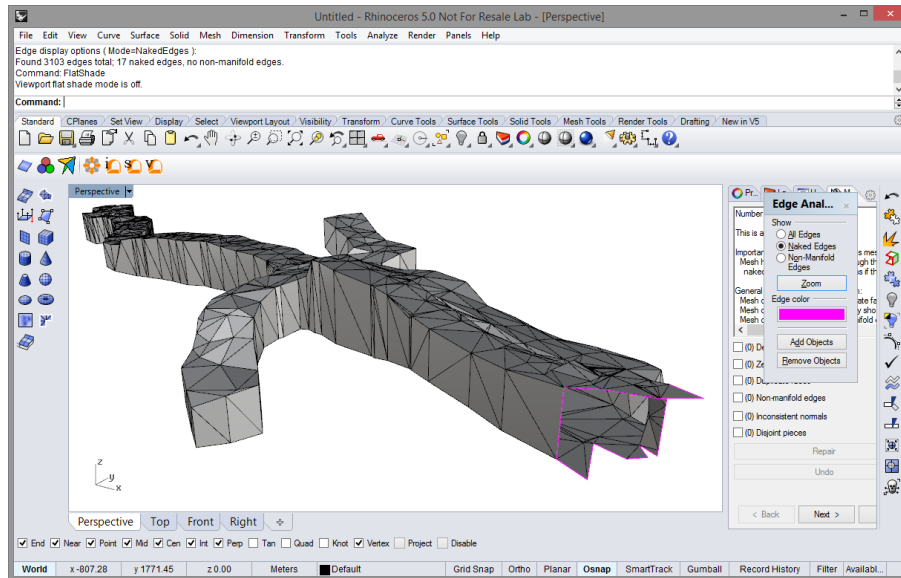

Figure 104: Highlighted open end of drift.
6. Maximize the perspective view and type **_FlatShade** to get a shaded view of the mesh. You will notice that the one of the drifts is open (Figure 104). We need to close this to eventually obtain a closed volume. We will trim this ragged end of the drift with a line and close the end with a mesh.